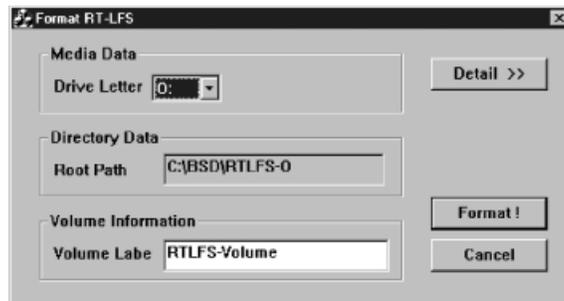

Fig. 11 Format RT-LFS tool dialog box
9. The RT-LFS format tool starts up, and the dialog box shown in Fig. 11 appears.
9. The RT-LFS format tool starts up, and the dialog box shown in Fig. 11 appears. Set “L” for “Drive Letter,” and click [Format].